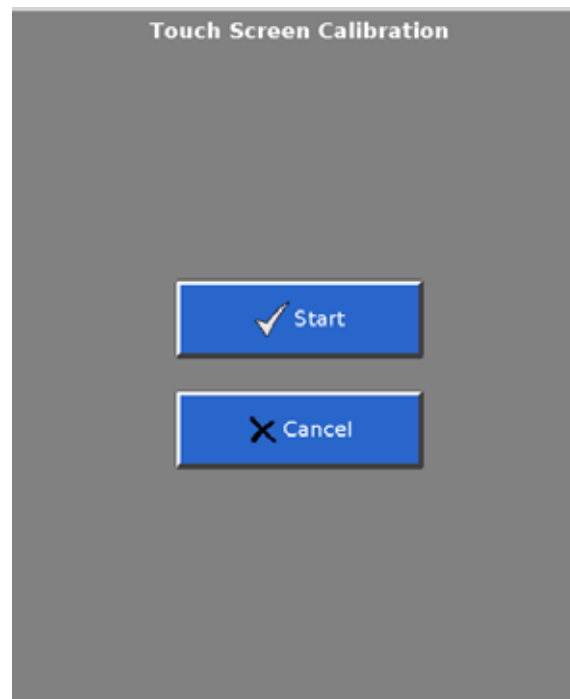

Figure E-12: Calibrate Touch Screen screen
- 1 From the **Diagnostics Menu**, select **Touch Screen Calibration**. The **Touch Screen Calibration** screen is displayed (Figure E-12).